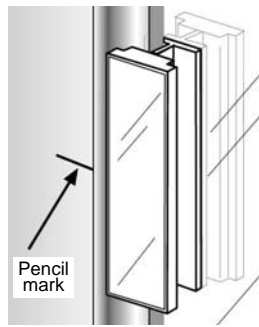

Figure 5
- C. The Magnetic Catch (#4) will be installed directly behind the Magnetic Catch Plate (#5). With the Wardrobe Door (#1) closed, make a small pencil mark on the wall, centered on the Magnetic Catch Plate (#5) (See Figure 5).